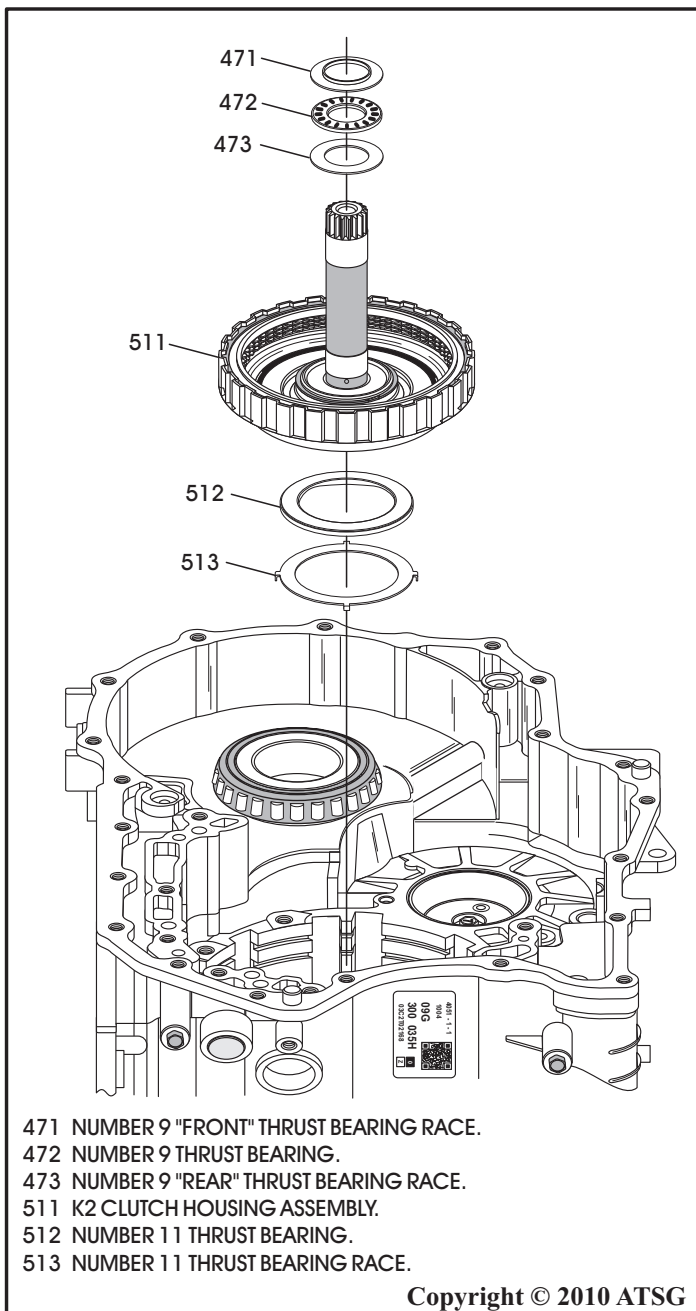

Figure 84
67. Remove the K2 clutch housing assembly along with the number 9 thrust bearing and races, as shown in Figure 84, and set aside for component rebuild section.
68. Remove the number 11 thrust bearing and race, as shown in Figure 84.